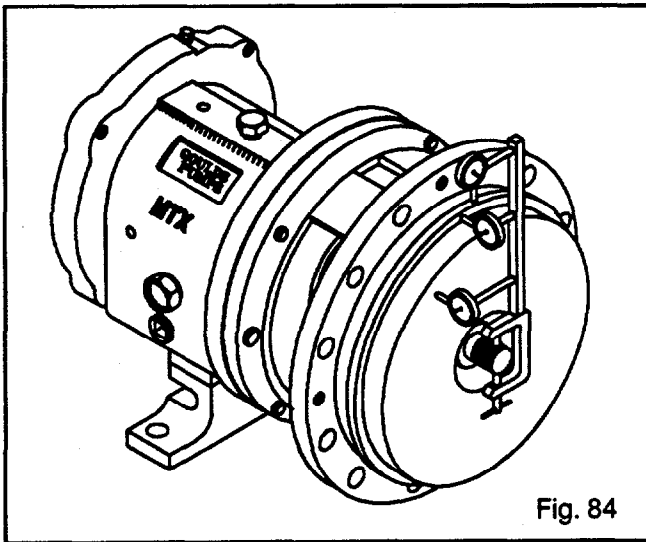

Fig. 84
2. Check seal chamber cover run-out. Rotate indicator thru 360 degrees. If total indicator reading is greater than 0.005 in. (.13 mm), determine cause and correct before proceeding (Fig. 84).